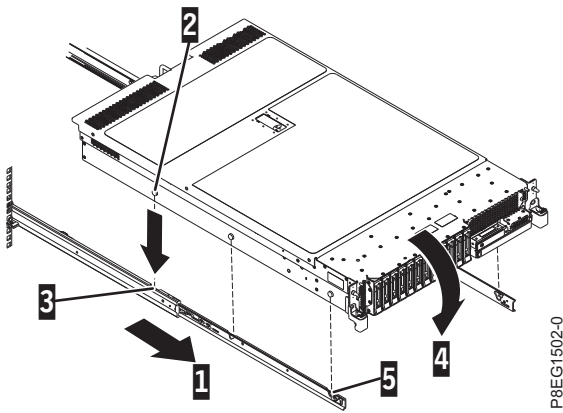

Figure 217. Extending slide rails and aligning server nail heads with the slots on the rail
- a. Extend the slide rails forward (1) until they click twice into place, if they are not already extended. See Figure 217.
- b. Carefully lift the server and tilt it into position over the slide rails so that the rear nail heads (2) on the server line up with the rear slots (3) on the slide rails. See Figure 217.
- c. Slide the server down until the rear nail heads slip into the two rear slots. Then, slowly lower the front of the server (4) until the other nail heads slip into the other slots on the slide rails. See Figure 217.
- d. Ensure that the front latch (5) slides over the nail heads. See Figure 217.